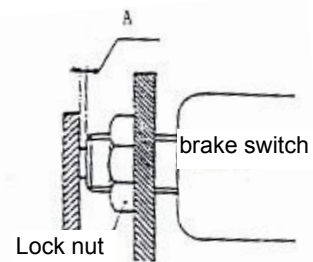

Figure 2-32 Brake light switch
- (5) Adjust the brake switch as shown in Figure 2-32